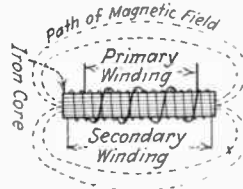

FIG. 28.—Open-core transformer.
*Ans.* An open-core transformer has a core made of soft iron in strip or wire form. To decrease losses the individual wires or strips that constitute the core are shellacked. An insulation wrapping is wound around the core, and the primary winding of a comparatively few heavy turns is wound around it. A heavy insulation is placed over this winding, and the secondary winding of many turns of fine wire is wound thereon in pancake form. The path of the magnetic field in an open-core transformer is open, as will be seen by referring to Fig. 28. It is seen that the field path is completed through the air.